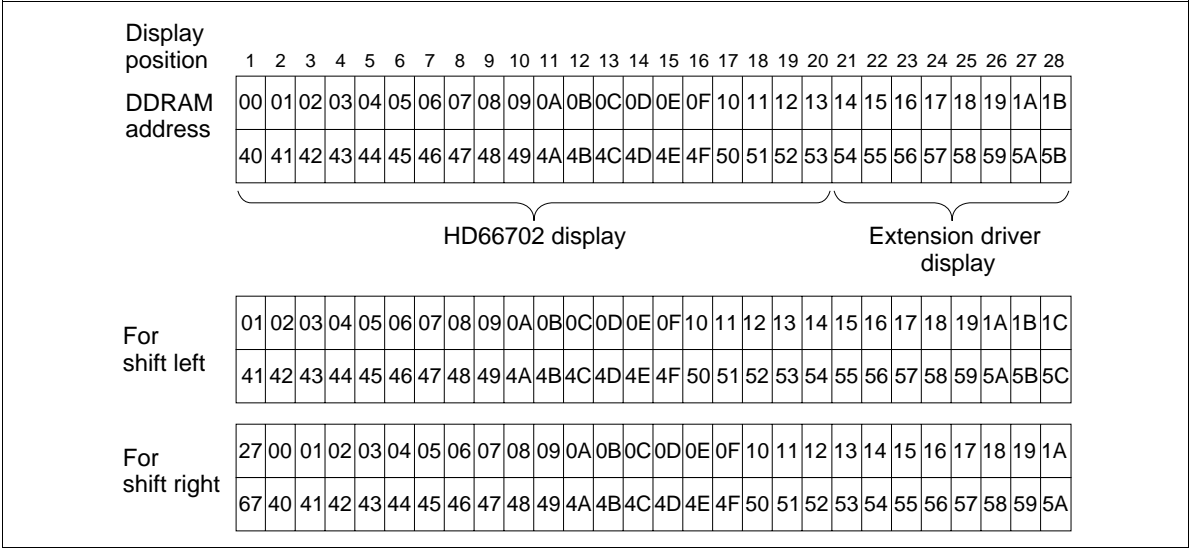

Figure 6 2-Line by 28-Character Display Example
- Case 2: For a 28-character × 2-line display, the HD66702 can be extended using one 40-output extension driver. See Figure 6.
- When display shift operation is performed, the DDRAM address shifts. See Figure 6.